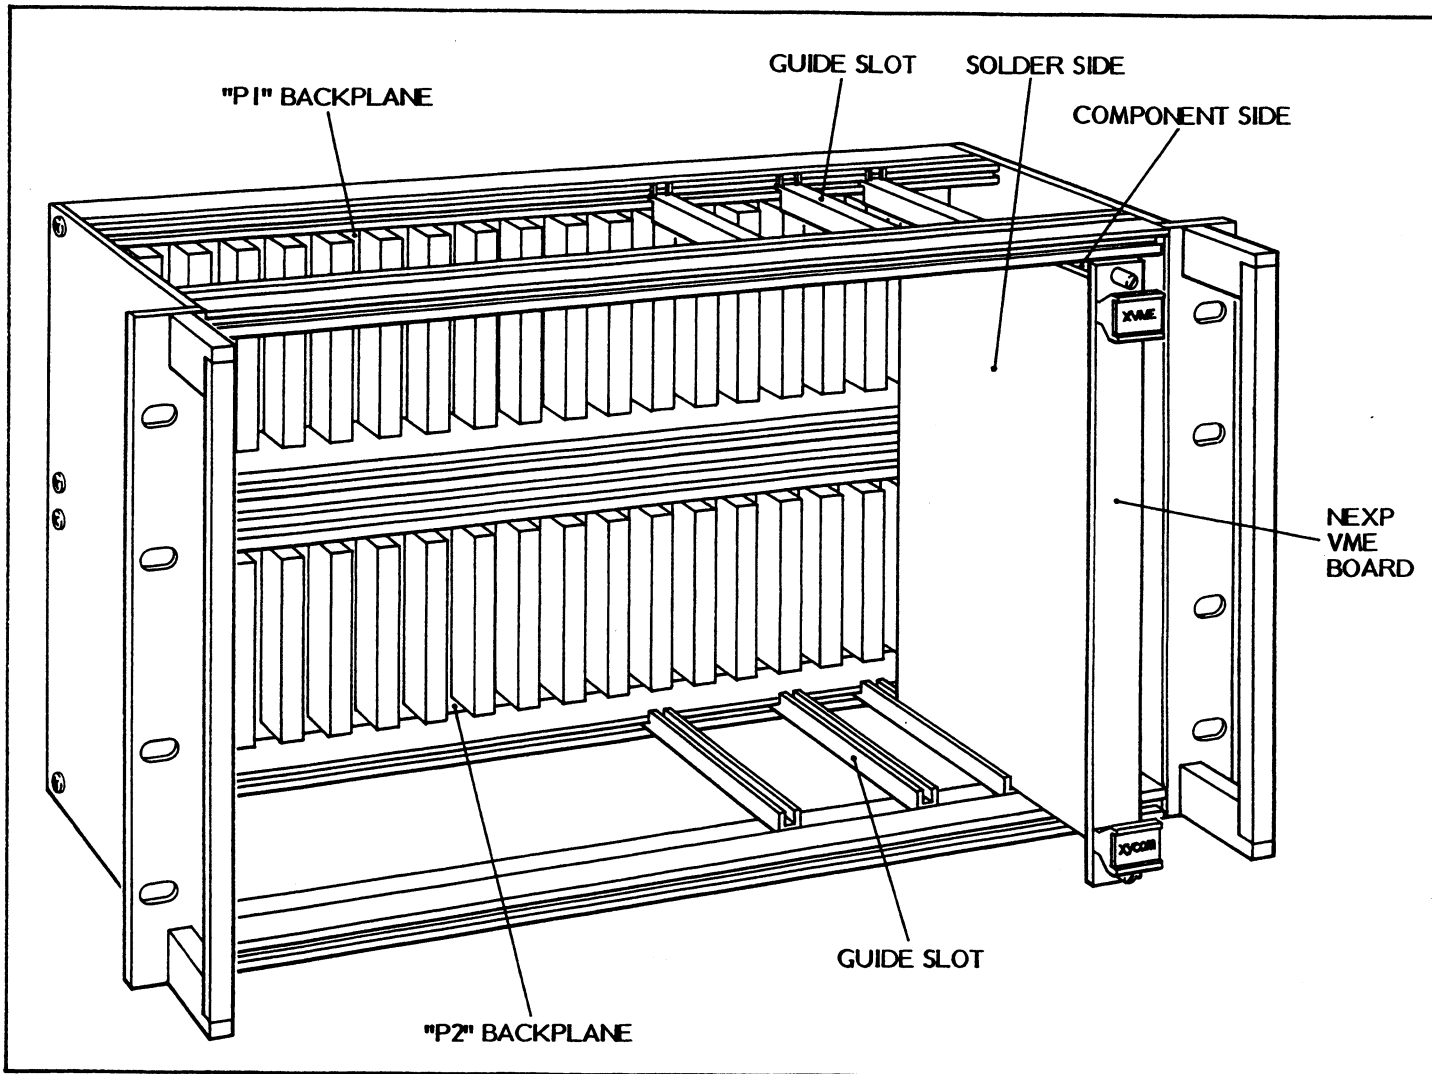

Figure 2-3. VMEbus Chassis
The Xycom VMEbus modules are installed in a standard VMEbus backplane. Figure 2-3
- 2) Center the board on the plastic guides in the slot so that the solder side is facing to the left and the component side is facing to the right (refer to Figure 2-3).